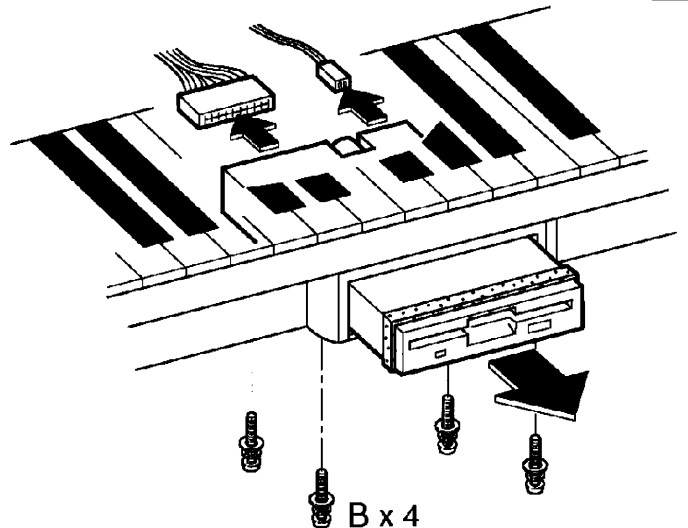

Figure-21
- Otherwise, the Disk Drive unit can be removed by removing the Disk Drive unit mounting screws (B 4 pcs.) as shown in Figure-21.